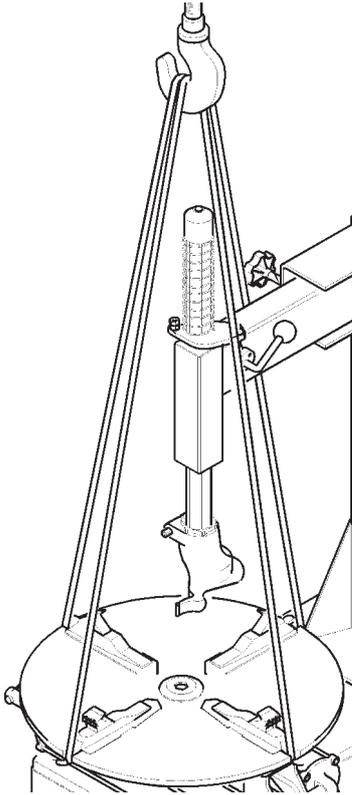

Fig.33
- C.** Hold the machine as depicted in (Fig. 33). Use belts of a length of mm 3000 (10ft) and a capacity of kg 500 (1100 lbs). Do not use metal ropes to lift the machine.
Elinguer la machine comme montré dans la (Fig.33).